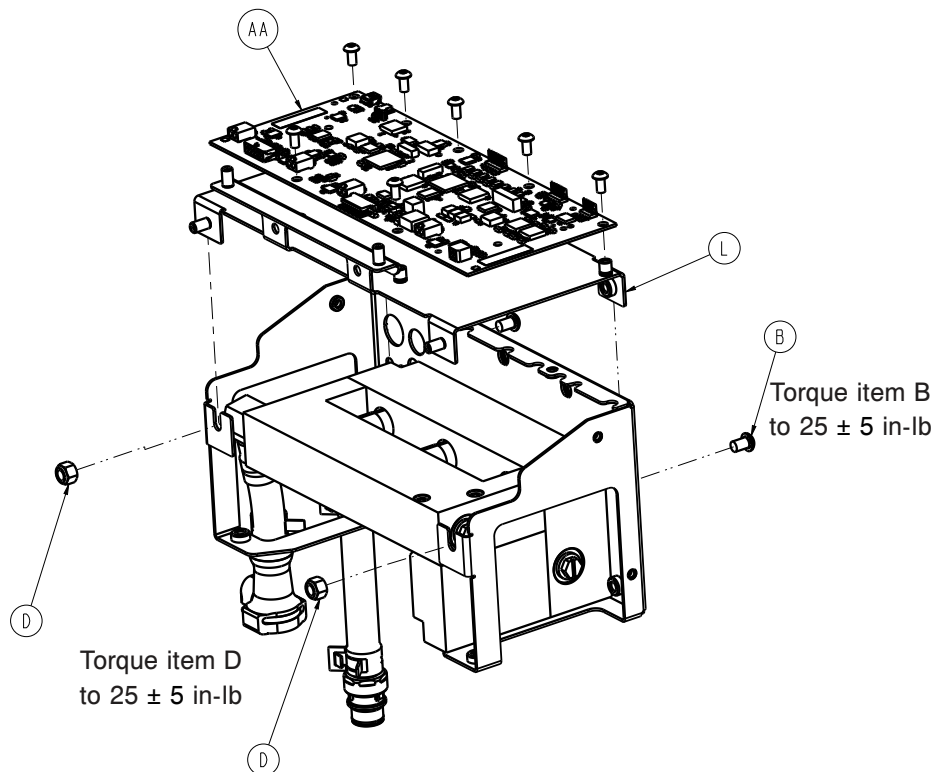

Figure 45 – MCB bracket
15. Using a T27 Torx driver, remove the two screws (B) (Figure 45) that secure the MCB bracket to the control assembly bracket. Save the screws.